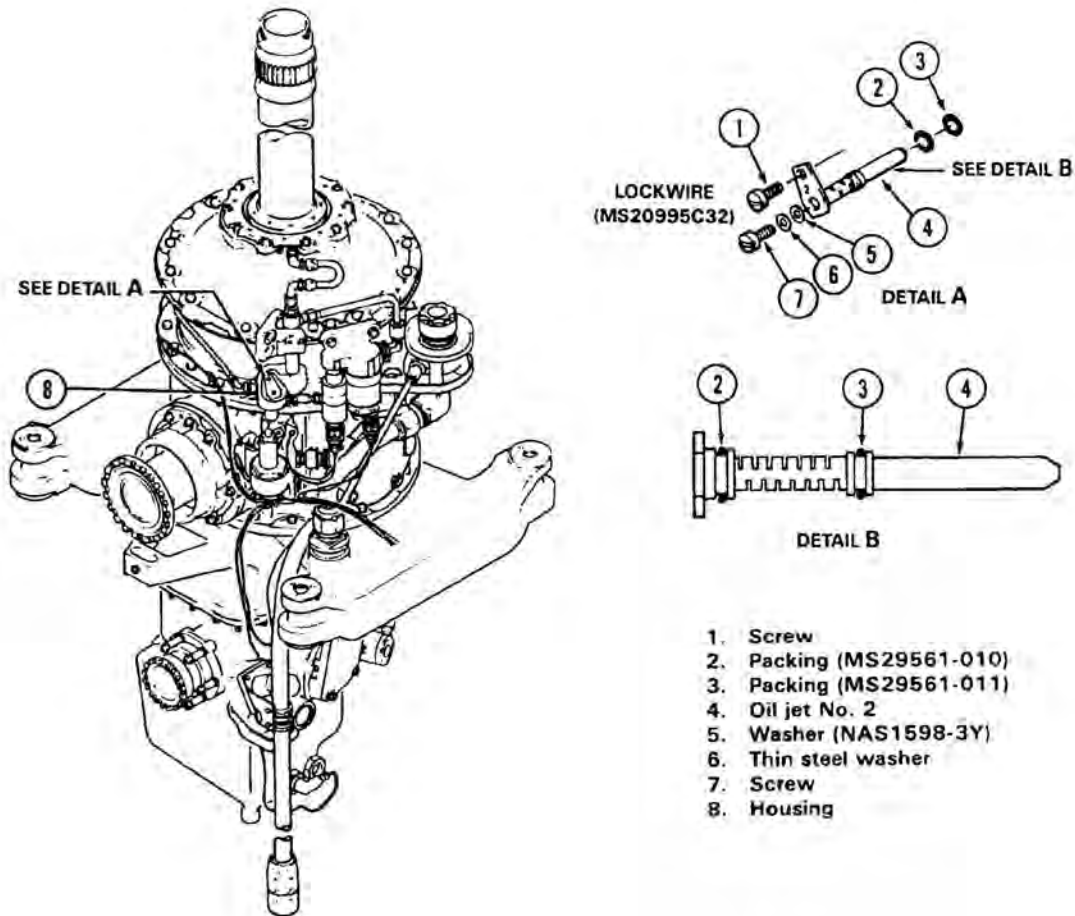

Figure 63-28. Transmission Oil Jet No. 2
63.5.12.1.1 Remove screw (1, Figure 63-28) and pull out oil jet (4).
63.5.12.5.1 Install screw (7, Figure 63-28) with washers (5 and 6) on jet (4).